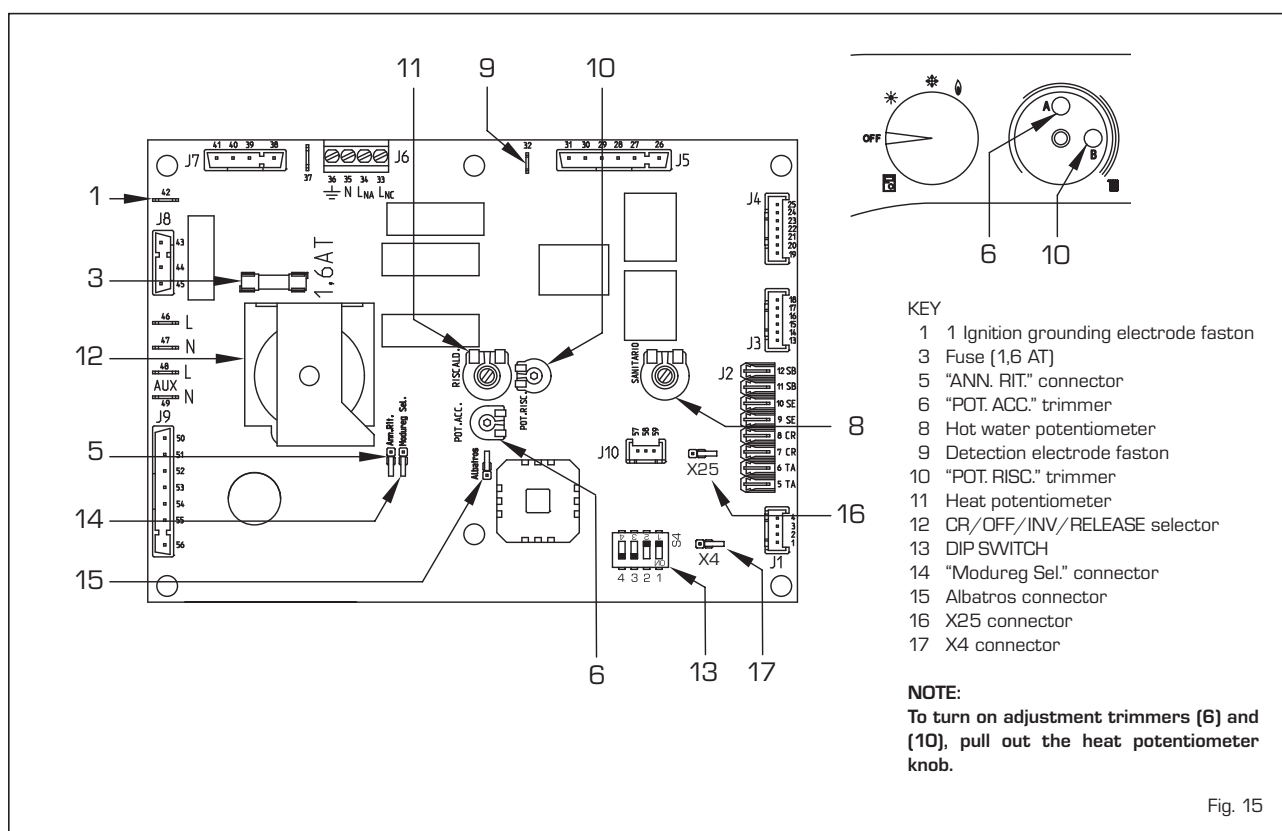

Fig. 15
- **"POT. RISC." trimmer** (10 fig. 15)
- **"POT. ACC." trimmer** (6 fig. 15)
- **"ANN. RIT." connector** (5 fig. 15)
- **DIP SWITCH** (13 fig. 15)
- **"Modureg Sel." connector** (14 fig. 15)
- **"Albatros" connector** (15 fig. 15)
on the heat power trimmer (10 fig. 15). To increase operating pressure, rotate the trimmer clockwise, to reduce it, rotate the trimmer counter-clockwise. Boiler power settings can be checked by